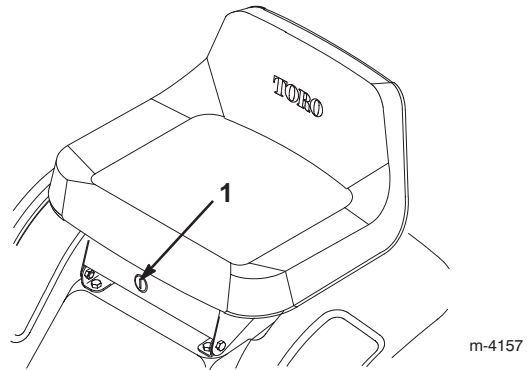

Figure 10
If you need to use the PTO while backing up, turn off the interlock feature using the KeyChoice switch located near the seat bracket (Fig. 10).
2. Insert the KeyChoice key into the switch (Fig. 10).